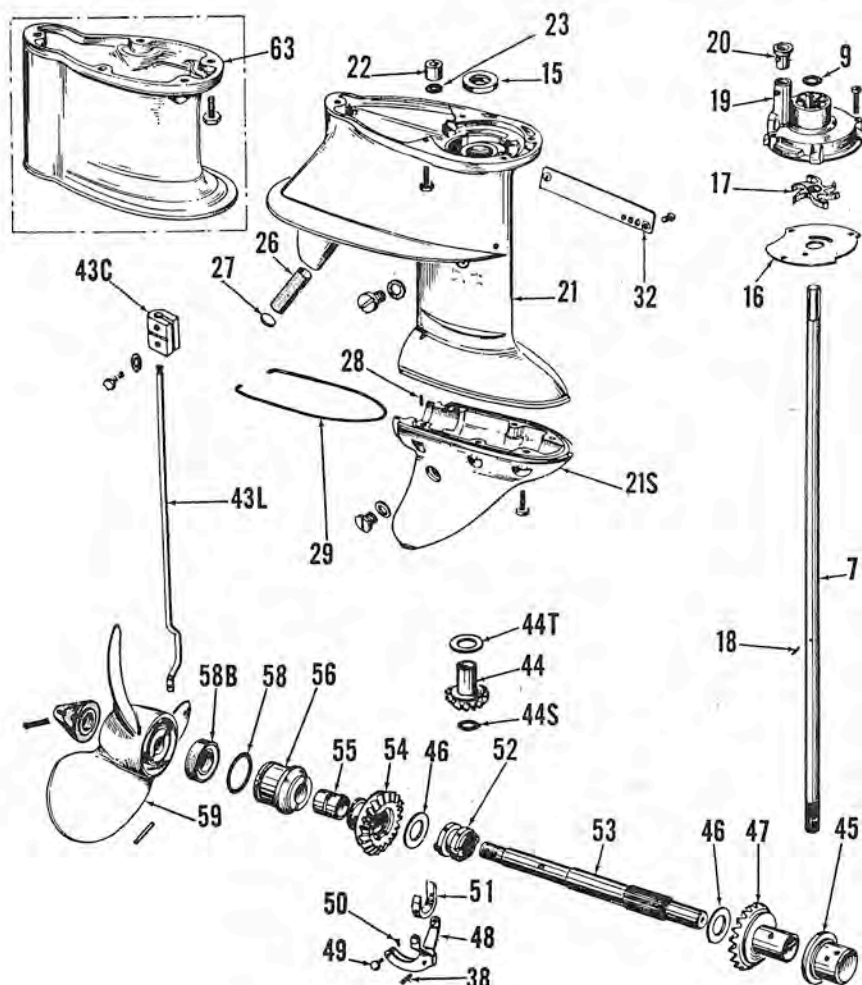

Fig. E33—Exploded view of Sportwin gearcase assembly and water pump. Fastwin unit is similar.
Fastwin and Sportwin. The propeller shaft (53—Fig. E33) and drive gears (47 & 54) can be removed after first draining lubricant from gear housing, removing pivot screw and unbolting and removing gearcase lower housing (21S). To separate the gearcase from exhaust housing, remove cover (11—Fig. E31) and loosen screw in shifter rod coupling (43C—Fig. E33). Reassembly can be simplified if the shift rod coupling (43C) is attached to lower shift rod (43L), and the water tube is installed in pump housing. Coat upper end of water tube with oil or liquid soap for easier installation in grommet. Be sure "O" ring (9—Fig. E33) is in place on upper end of drive shaft (7).